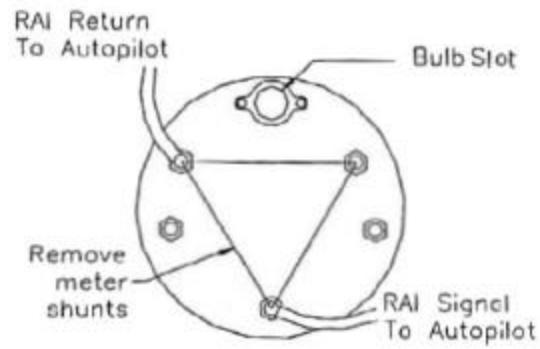

Figure 1 – Diagram of RAI wiring
Wiring Instructions - refer to Figure 1 for diagram of RAI and connections
- 3) Use 18 – 22 AWG (not included in kit) wires and connect them to the RAI (Rudder Angle Indicator) SIGNAL and RAI RETURN terminals (see Figure 1).